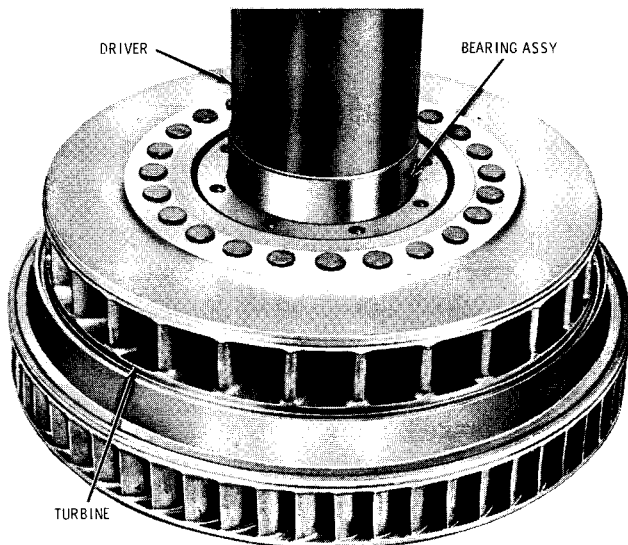
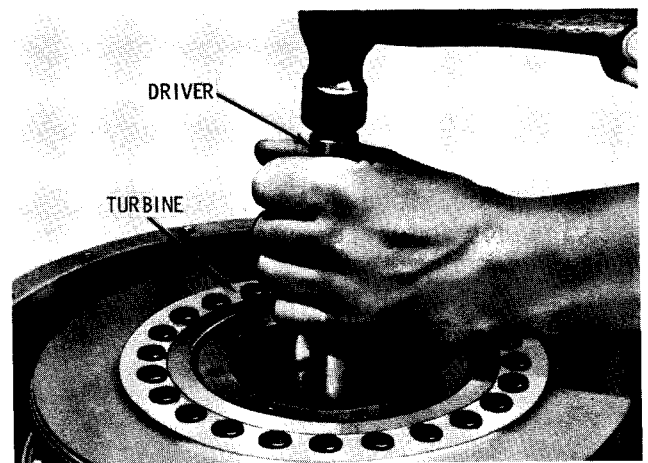

Fig. 7-19. Installing double-row ball bearing in turbine S2075
Fig. 7-20. Installing turbine and turbine bearing S2076
(9) Place torque converter turbine 16 in a press and install double-row ball bearing 17 into the turbine bore (fig. 7-19). Seat the bearing against the shoulder.
(10) Install spacer 18 (A, foldout 13) onto the turbine bearing. Install snapping 19, flat side first, to retain the spacer.
(11) Install the turbine, with the bearing, onto the torque converter pump. Using a suitable driver (fig. 7-20), seat the turbine and bearing on the pump.